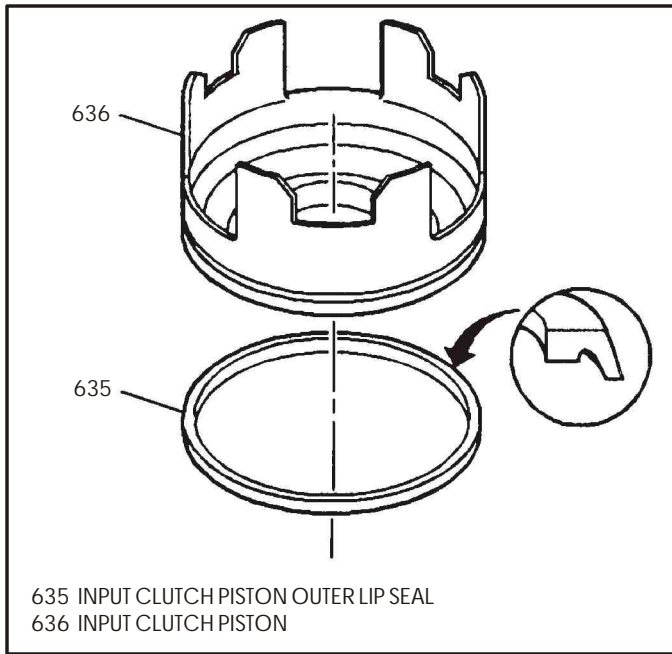

Figure 108
21. Install the outer lip seal onto the input clutch piston with the lip facing down, as shown in Figure 108.